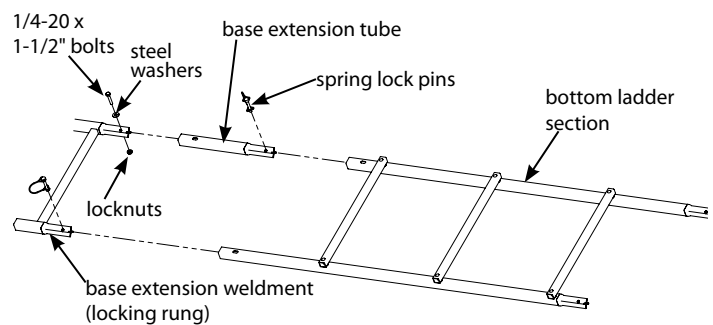

Figure 5
6. Insert one side of the base extension weldment (410044) into the base extension rail tube (410040) and secure with (1) provided 1/4-20 x 1-1/2" bolt, locknut and steel washer. **SEE FIGURE 5.** This step now makes this the "locking rung".
7. Take the factory assembled ladder sections and unfold them to their full, deployed width. Insert the previously assembled base extension into (1) 3-step ladder section (410032) and secure with (2) spring lock pins. Handle of spring lock pins must be put to the outside of the ladder side rails. **SEE FIGURE 5.** This step now makes this the bottom ladder section.